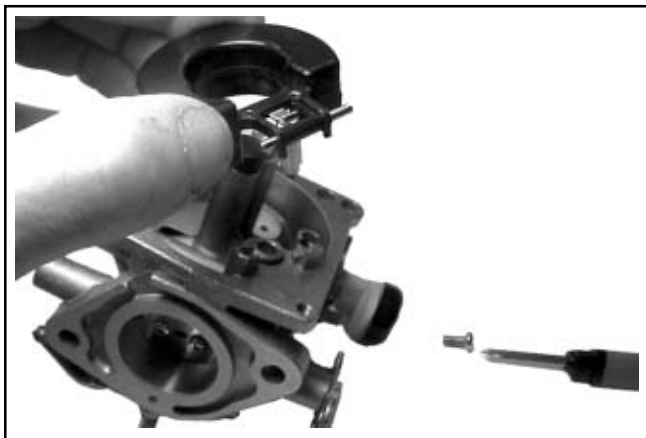

Figure 5-15. Removing Float and Inlet Needle.
2. Remove the float pin screw and lift out the old float, pin, and inlet needle. See Figure 5-15. Discard all of the parts. The seat for the inlet needle is not serviceable, and should not be removed.